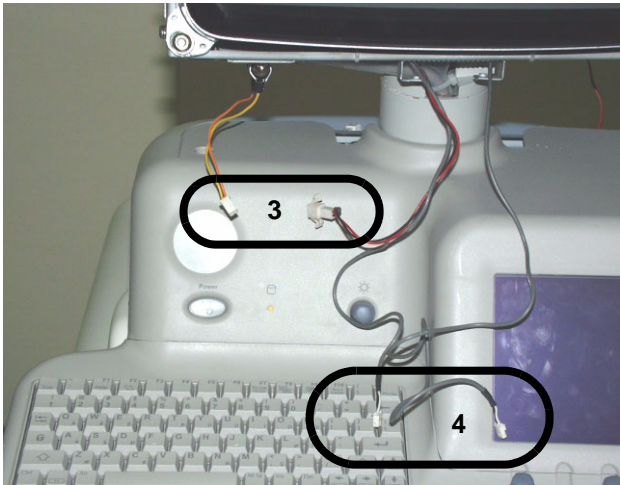

Figure 8-16 Disconnect two connectors
- 2.) Disconnect two (3-4) connectors. Refer to Figure 8-16.